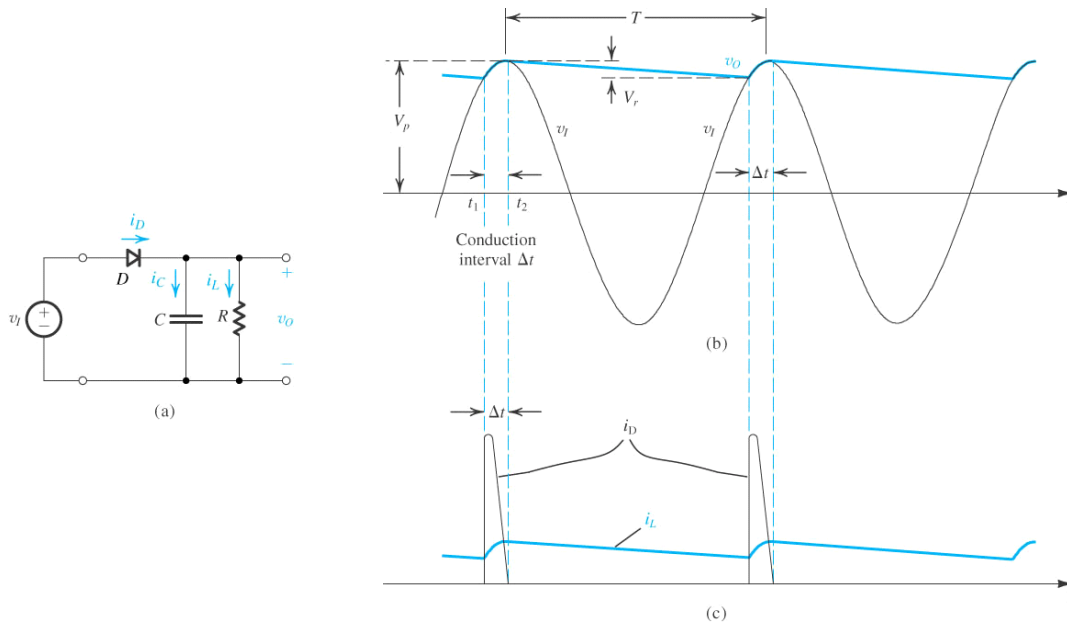

Figure 5.24: Circuit of the peak rectifier.
- Figure 5.24 shows the circuit of the peak rectifier.